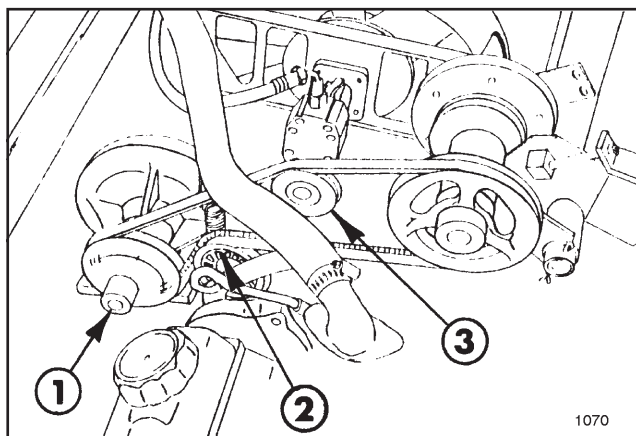

FIG. 5
11. Install the Pump Drive Belt on the pulleys as shown in FIG. 5. After installation of the Belt, loosely mount the Backside Idler Pulley in the long slot on the Idler Pivot Bracket using 3/8" x 2" carriage bolt, 3/4" spacer, hex nut, lockwasher, and (2) flat washers. With the Belt on the topside of the Idler Pulley, slide pulley up until all the slack is removed from the Belt, then tighten nut on the carriage bolt. To apply tension to the Belt, place the Inside Idler Pulley under the Belt. See FIG. 5.